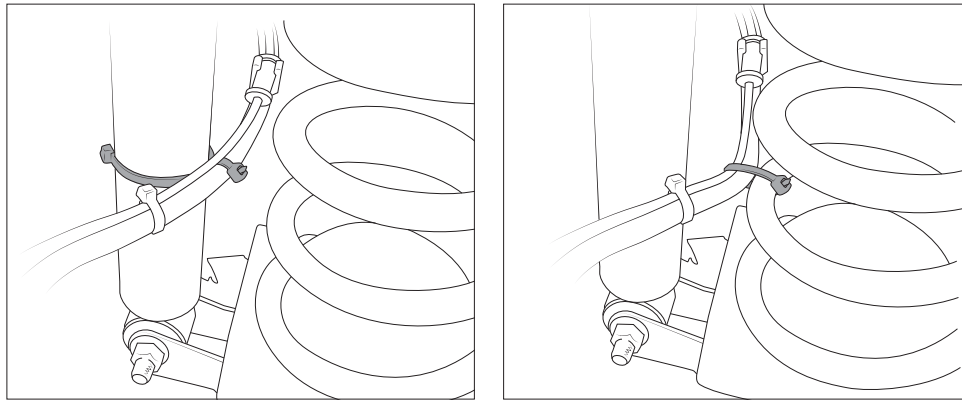

Figure 32
23. For **2011 and newer** models, use supplied zip ties to secure the brake line to the shock as shown. For Remote Reservoir shocks, secure brake line to the spring (Fig. 32).